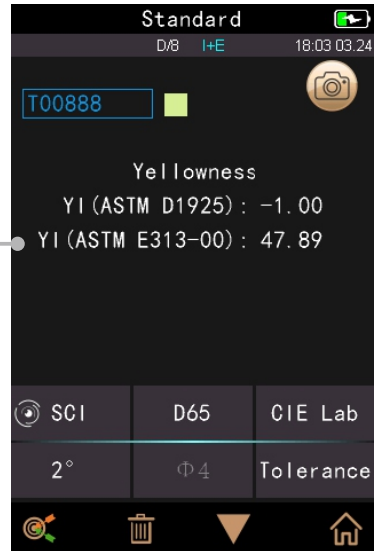

Figure 8 Color Index Interface
- 13) Page Turing: Click it to quickly switch the current data among data display area, spectrum display area and color index display area (as shown in Figure 8).